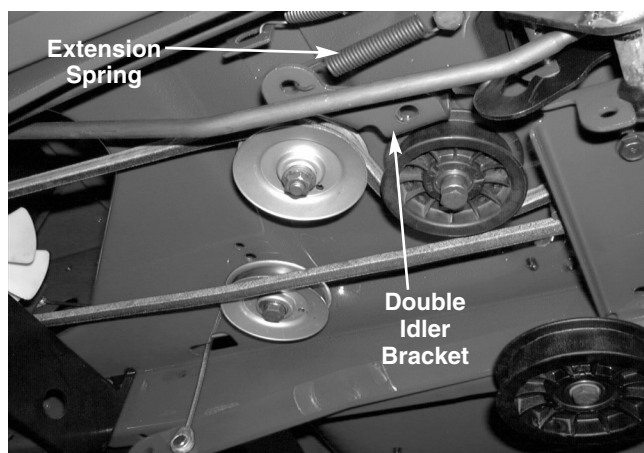

FIGURE 2.
6. Remove the extension spring from the double idler bracket assembly and set it aside. See figure 2.